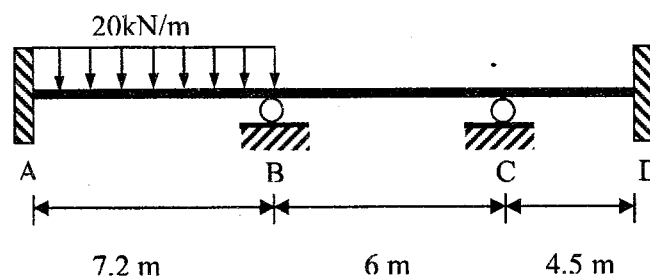

Figure 4
3. Figure 4 shows a beam carrying a uniformly distributed load of 20 kN/m on span AB. Supports A and D are fixed and supports B and C are rollers. The support at C settles vertically by 30 mm. Given the value of $E = 200$ GPa and value of $I = 600 \times 10^6 \text{ mm}^4$. Using the Slope Deflection Method, calculate internal moments at the supports of the beam. Subsequently, sketch the deflected shape and bending moment of the frame. Neglect axial deformation. (Fixed end moment formula are given in the APPENDIX)